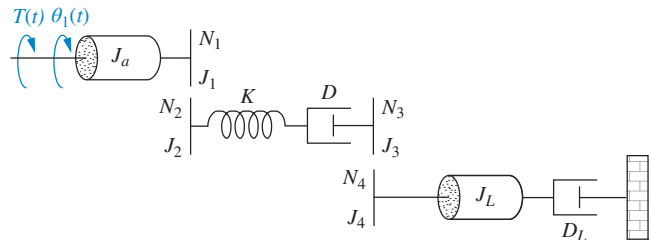

FIGURE P2.25
40. For the rotational system shown in Figure P2.25, write the equations of motion from which the transfer function,  $G(s) = \theta_1(s)/T(s)$ , can be found. [Section: 2.7]